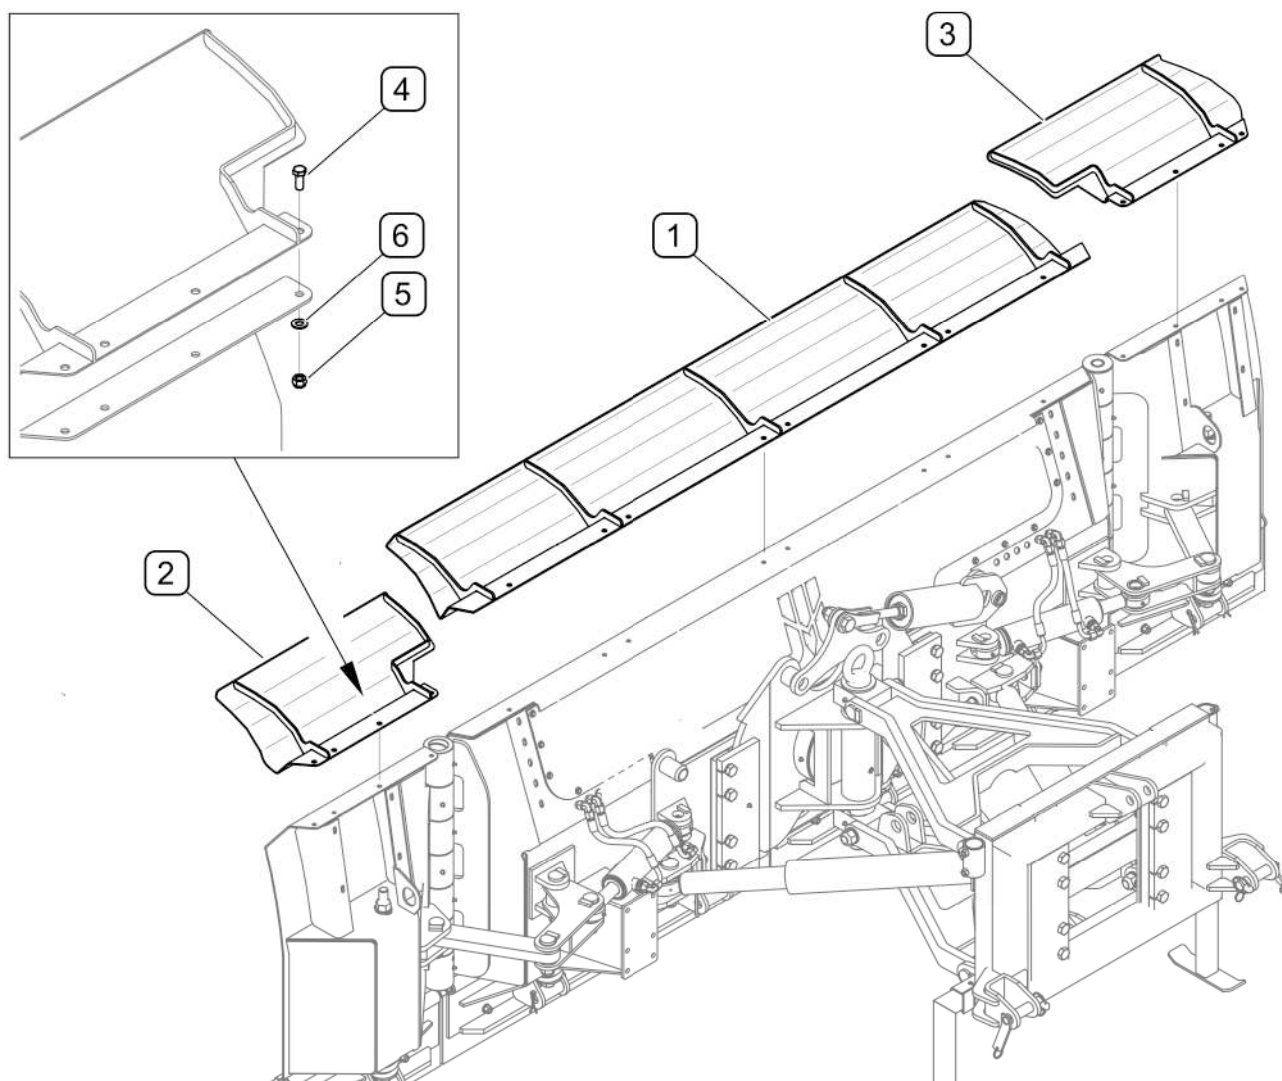

FIG. 4.10 Mouldboard extensions for snow
- Mouldboard extensions for snow - catalogue no. 380N-13000000 (FIG. 4.10)
Dust shield (FIG. 4.13) can be used together with mouldboard extensions for snow (FIG. 4.10)